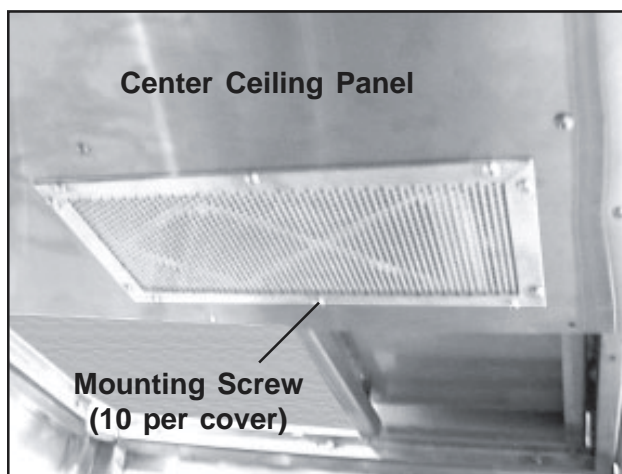

Figure 85. Typical Filter Cover (exhaust)
3. With a Phillips screwdriver, unscrew the ten mounting screws on the exhaust pre-filter cover (Figure 85) and remove the cover and the pre-filter from the ceiling panel.